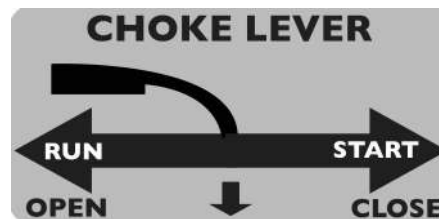

Figure 5 Choke Lever
5. Move the choke lever to the “CLOSE” position (See Figure 5).
8. If engine fails to start, repeat step 7. **NOTE:** After repeated failed attempts to start the engine, please consult the troubleshooting guide before attempting again. If problems persist please call (800) 232-1195 M-F 8-5 CST.